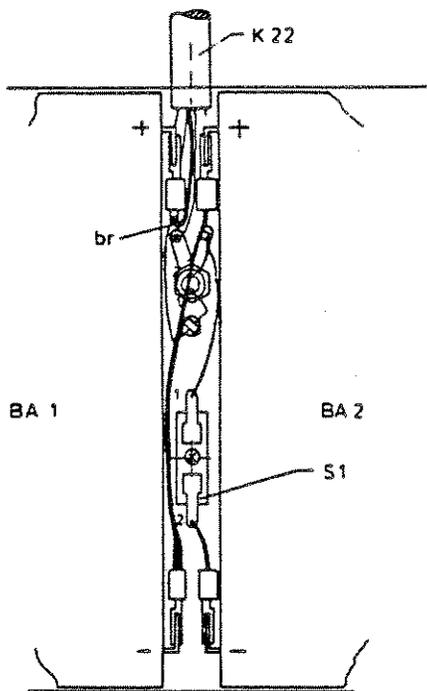

Fig. 2-1 Battery connection diagram
- Connect the batteries as shown in Fig. 2-1.